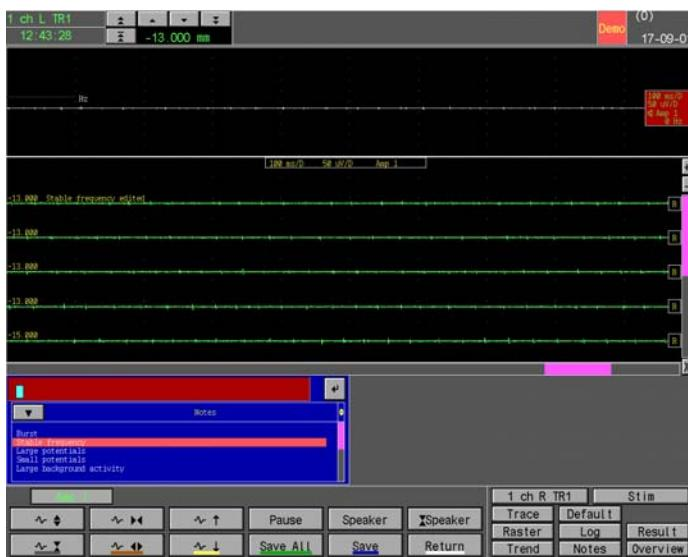

Figure 12 Edited Note in the Raster Window.
- To enable the scroll bar, click the  button at the lower-right part of the Raster Window, see Figure 12 below. The scroll box moves along the scroll bar, and indicates the time frame (seconds) you have chosen to see.
If an edited note is attached to the trace, it will be displayed just above the trace in the Raster Window, provided that it has been selected in the in the Adv. IOM Modality Setup, (How to find this setup, see page 60). See Figure 12 below in which "stable frequency edited" is shown just above the trace. Information on Selecting Predefined Notes see page 18.